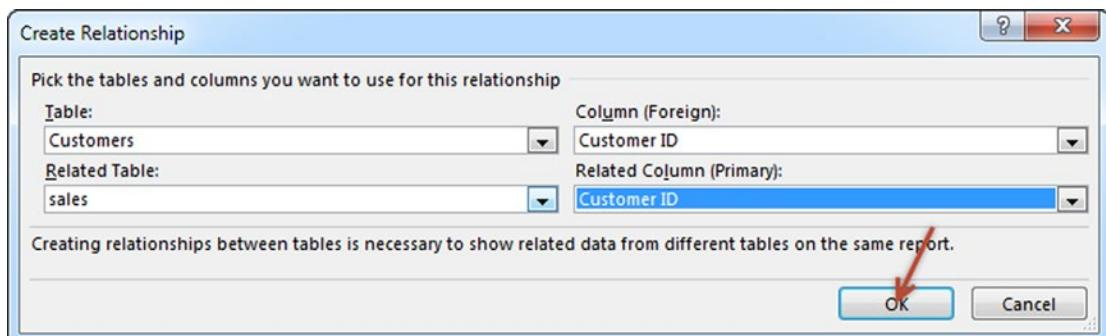

Figure 21-8. The Create Relationship dialog box
- It doesn't matter in what order you list your relationships. Excel 2013 is smart enough to figure out the order of relationships (more on this later). So, just select both tables and columns on which the relationship should be defined. In Figure 21-8, you can see the relationship defined between the Customers[Customer ID] and sales[Customer ID] columns.